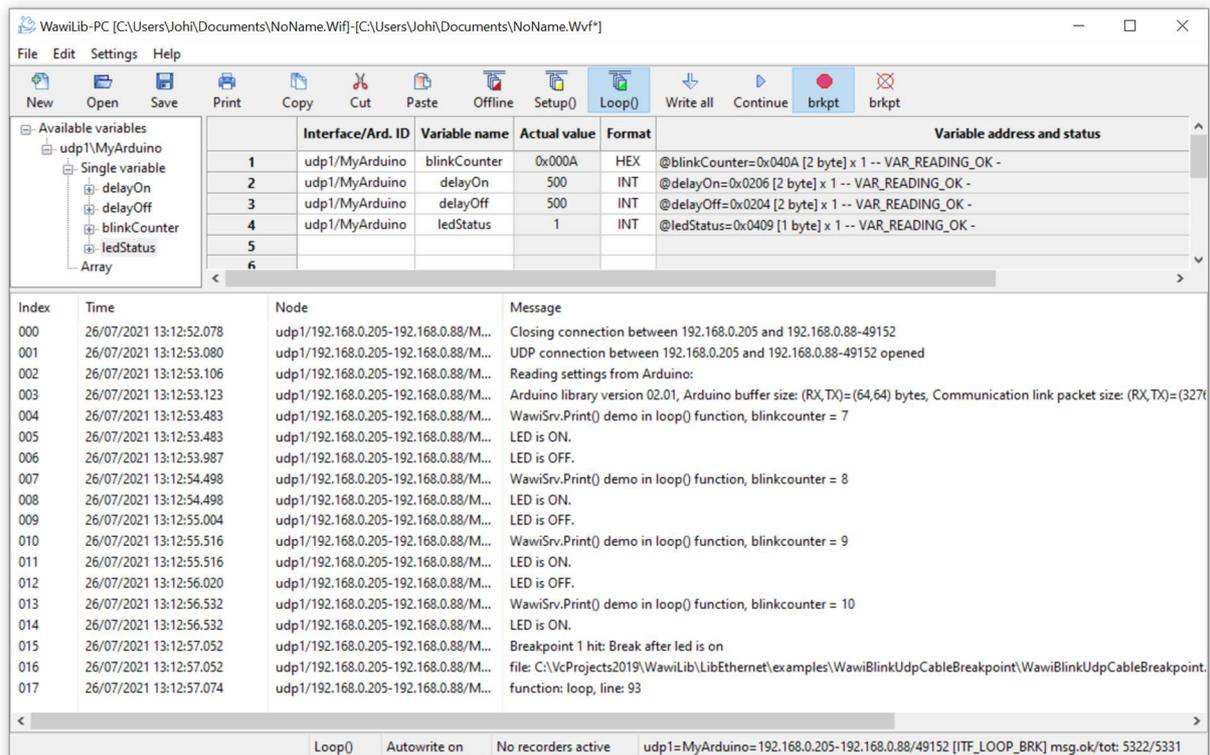

Fig 10.2. WawiBlinkUdpWifiBreakpoint hit a breakpoint.
- ✓ Add the variables to the grid as indicated in fig. 10.2.
- ⇒ Fig 10.2. shows that a breakpoint was hit:
- ⇒ The output window also contains the source file name, the function and the source line where the breakpoint was hit. (fig. 10.2)